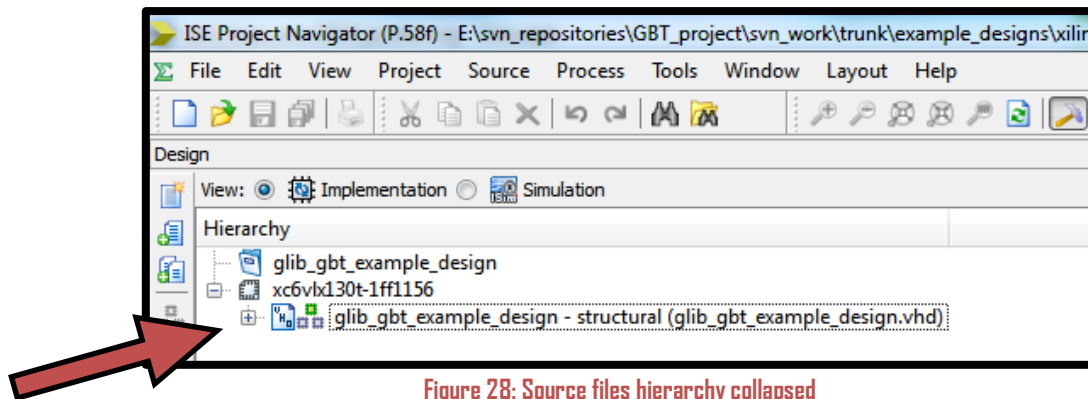
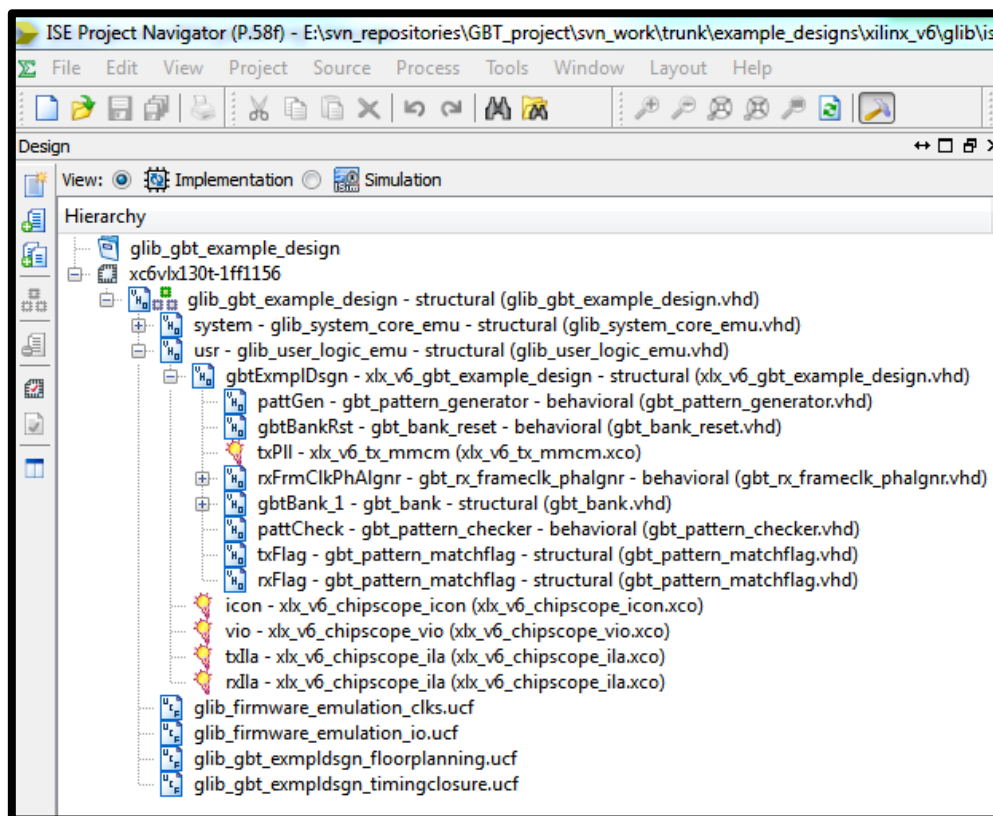

Figure 28: Source files hierarchy collapsed
Figure 29: Source files hierarchy partially expanded
12. Once the project of the GBT-example design is open in ISE, you can expand the hierarchy of the source files by clicking on the "+" sign near the source file names the "Hierarchy" pane of the "Design" window (see Figure 28 and Figure 29).